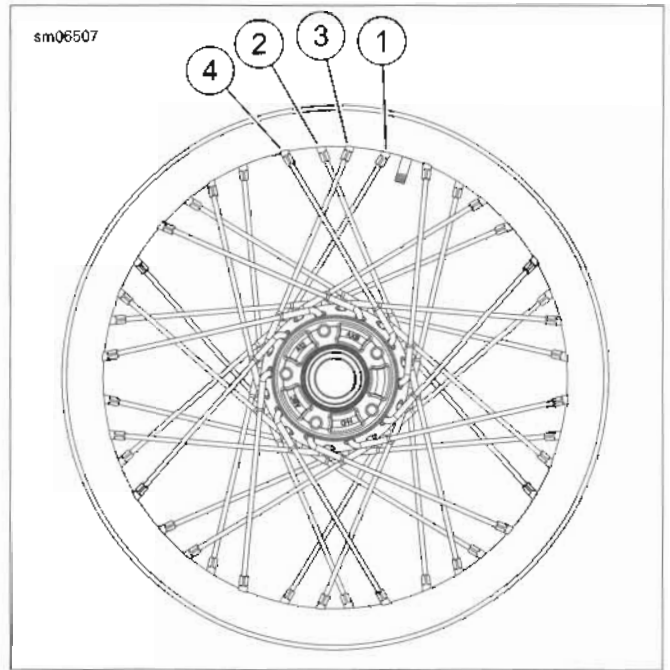

Figure 2-15. Center Valve Rim
- Rim with center valve hole:** See Figure 2-15. Start at the first hole counterclockwise (1) from valve stem hole.
- Starting at the 2nd hole counterclockwise (2) from first spoke installed, install inner spoke.
- Starting at the first hole counterclockwise (3) from first spoke installed, install inner spoke. Install all remaining inner spokes in every 4th hole.
- Install outer spokes in remaining holes (4).